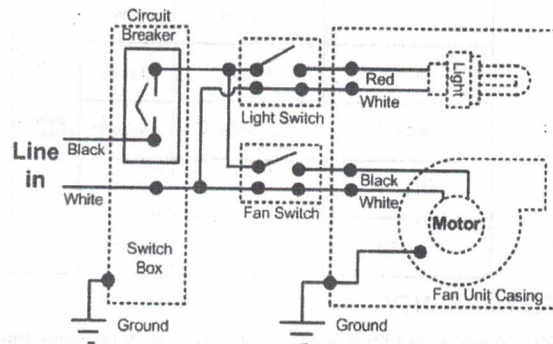

Figure 8: Wiring diagram
- iii) Run 120V A.C. house wiring to fan location. Use proper UL approved connector to secure house wiring to fan housing wiring box. (Figure 8)